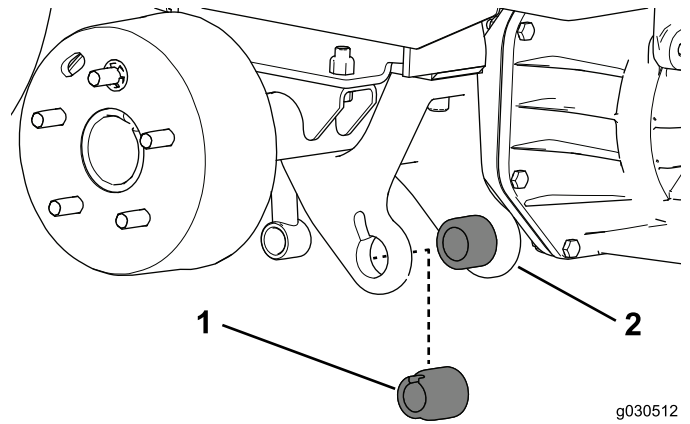

Figure 3
1. Install the spacers into the pivot bracket (Figure 3).